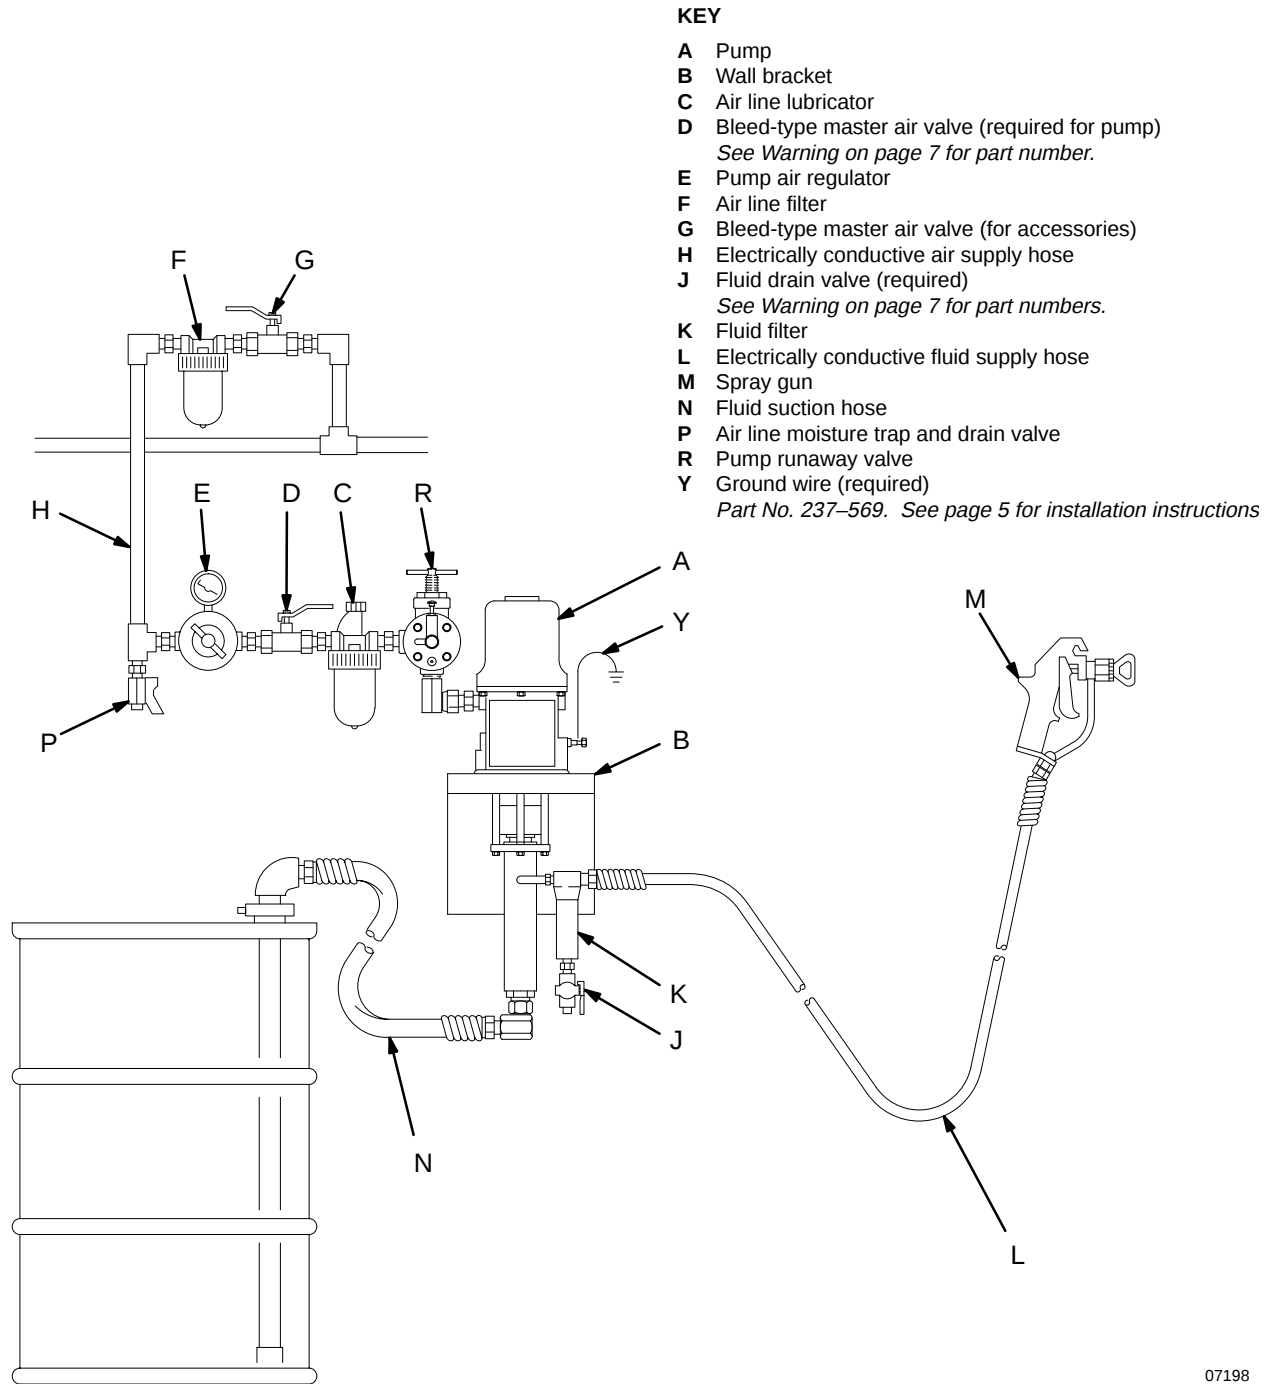

Fig. 2
- Fig. 2 is only a guide for selecting and installing system components and accessories. Contact your Graco distributor for assistance in designing a system to suit your particular needs.
Install the following accessories in the order shown in Fig. 2, using adapters as necessary:
Install the following accessories in the positions shown in Fig. 2, using adapters as necessary:
Dispenses the fluid. The gun shown in Fig. 2 is an airless spray gun.
1. Ensure that the air regulator (E) and bleed-type master air valve (D) are closed. See Fig. 2 on page 6.
2. Connect a suction hose (N) to the pump's fluid inlet, or lower the pump into a fluid supply container.
3. Hold a metal part of the spray gun (M) firmly to the side of a grounded metal pail and hold the trigger open.
4. Open the pump's bleed-type master air valve (D).
5. Slowly open the air regulator (E) until the pump starts; approximately 2.8 bar (0.28 MPa, 40 psi).